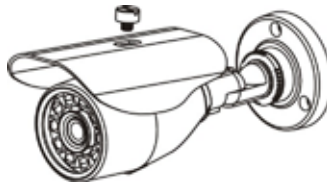

Figure 5-5
6. Fix the camera shell, as shown in Figure 5-5.